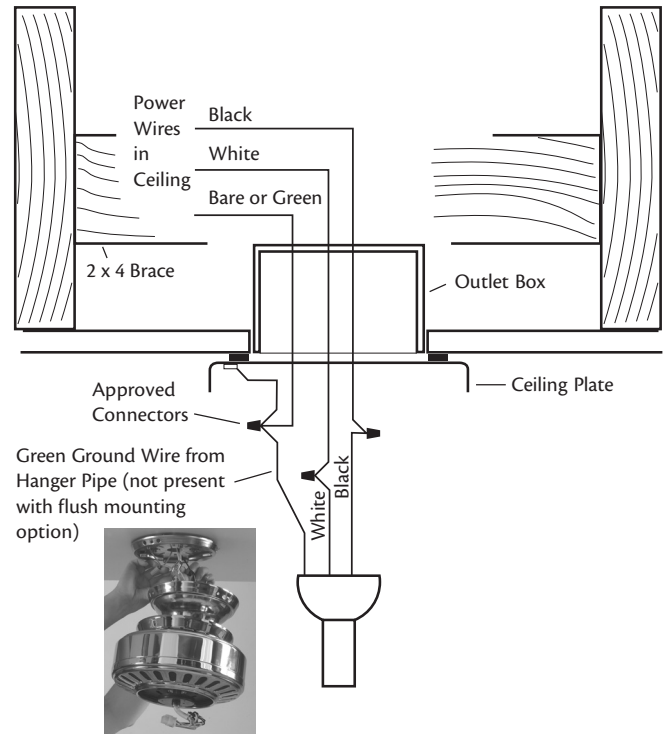

Figure 15 - Wiring the fan
2. Connect the wires as shown in Figure 15. To connect the wires, twist the bare metal leads together. Place a wire nut over the intertwined length of wire and twist clockwise until tight as.